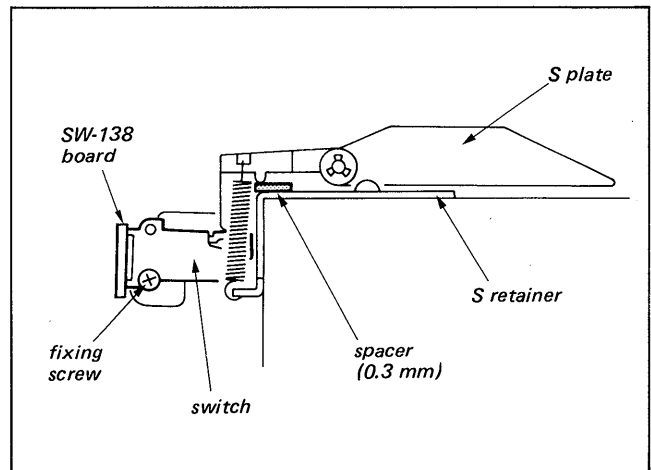

Fig. 3-4
1. Put the 0.3 mm spacer between the S plate and the S retainer as shown in Fig. 3-4.